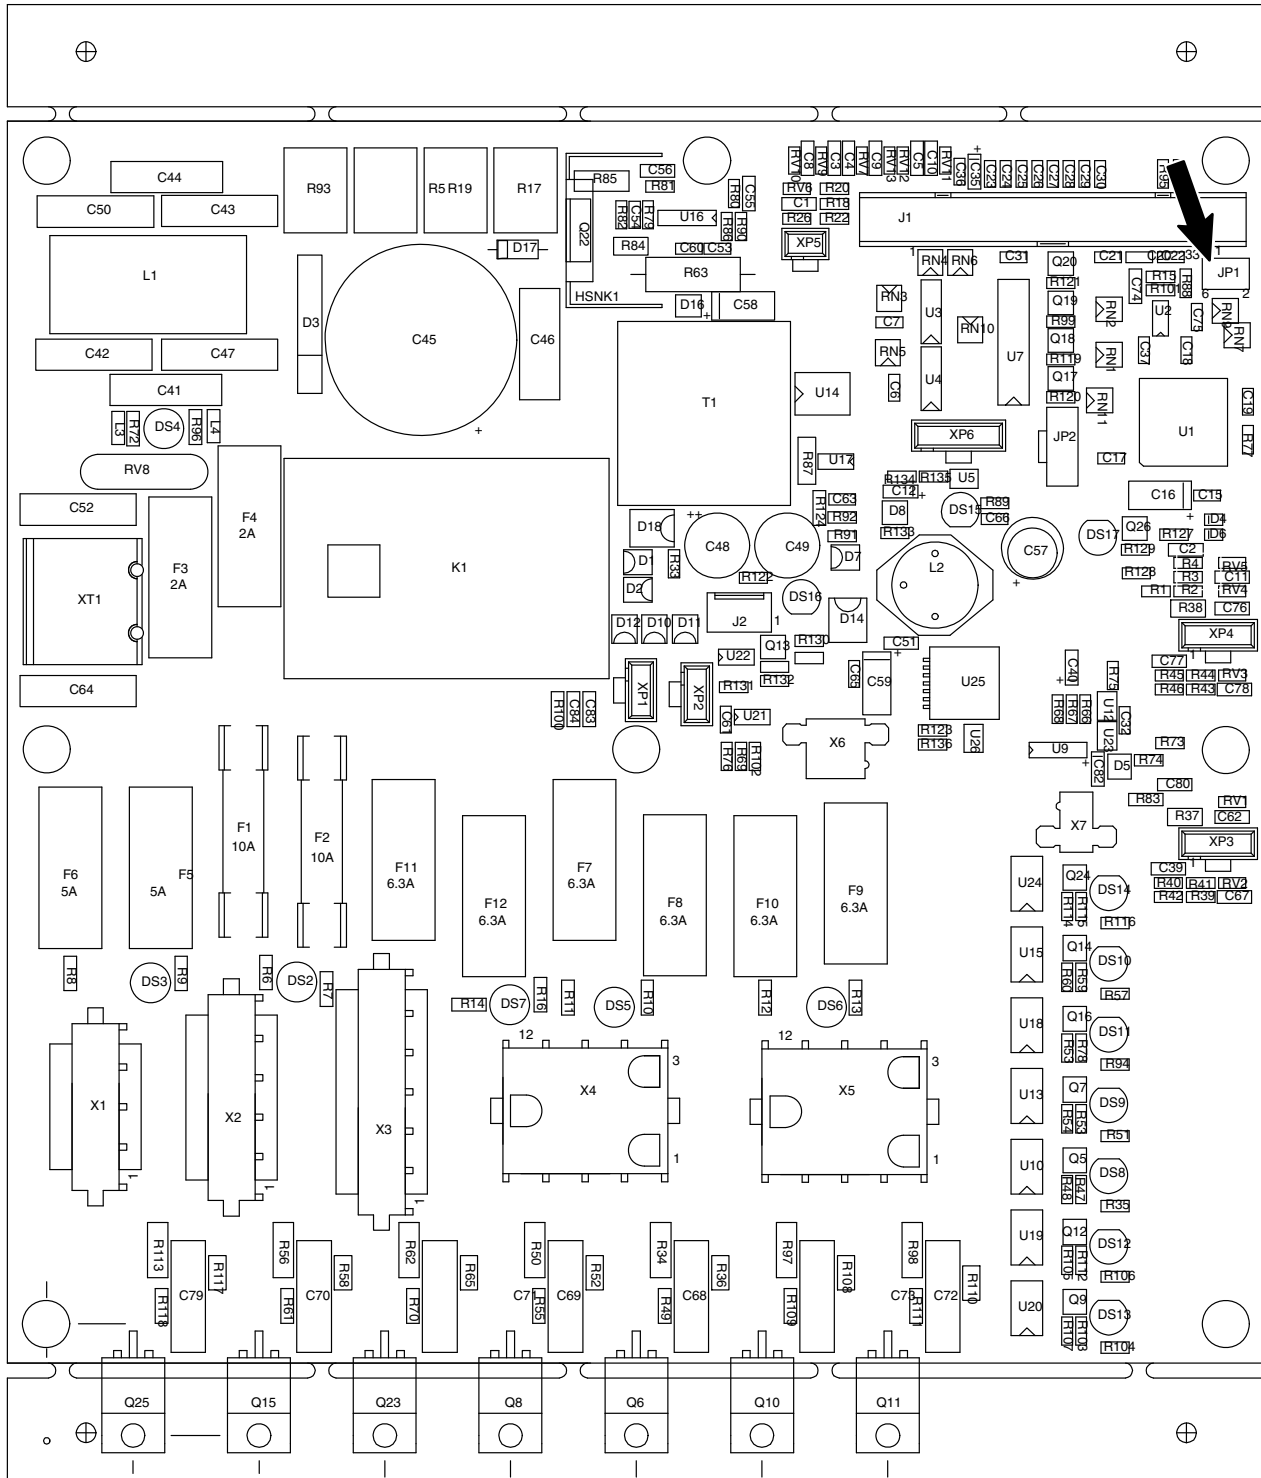
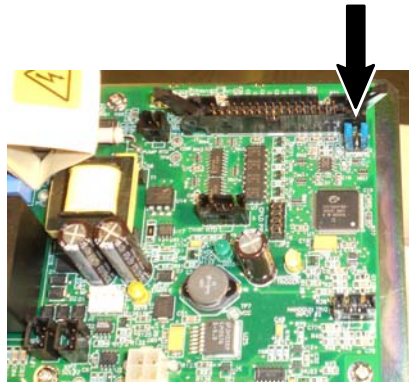

Figure 5-12 Location of the JP1 terminal on the main PCA board
Figure 5-13 100-ohm platinum melter—jumpers installed
NOTE: Before installing the new board, you must ensure that the board is properly configured for the type of temperature sensors present on the melter. If the melter uses 100-ohm platinum sensors, the jumpers connected to the JP1 terminal on the old board must be removed and then installed on the new board. Figure 5-12 shows the location of terminal JP1 on the main PCA board. Figures 5-13 and 5-14 show the jumpers installed and not installed, as appropriate for each type of melter.
- c. Install the second jumper between terminals 5 and 6. Figure 5-13 shows the jumpers installed.